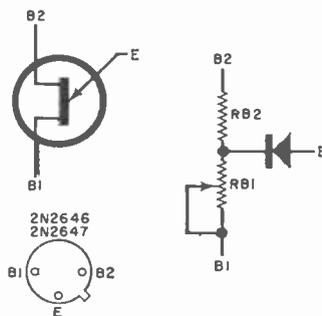
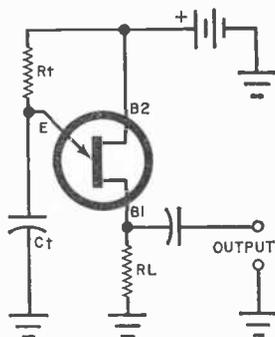

FIGURE 1
FIGURE 2
**How the UJT Works.** The UJT can be represented by a circuit approximation consisting of two resistances in series, with a diode connected at their junction as in Fig. 1. (Also shown in the figure is the accepted schematic symbol and base diagram for the UJT. Note that in
**UJT Relaxation Oscillators.** The schematic diagram in Fig. 2, or some varia-
When the potential across  $Ct$  reaches the value of peak-point voltage for the particular UJT being used in the circuit, the emitter junction goes suddenly into conduction. Using the UJT approximation shown in Fig. 1,  $RB1$  promptly drops to a much lower value and  $Ct$  in Fig. 2 discharges abruptly through load resistor  $RL$ , producing a spike pulse of voltage across the output terminals.
**When It Doesn't Work.** The operation of a UJT relaxation oscillator involves more than just raising the potential across timing capacitor  $C_t$  to the firing level. A certain value of current, called the "peak-point emitter current," is required to fire the unijunction transistor. This current must be supplied through timing resistor  $R_t$  (see Fig. 2). If the current through  $R_t$  is too low, capacitor  $C_t$  will charge to a value that is below the peak-point voltage, and operation will cease. The UJT will not fire. This need for sufficient emitter current becomes important when  $R_t$  must have a large value to operate the UJT at a very low repetition rate.
receivers is shown in Fig. 1. The circuit for a modified full-wave bridge rectifier is shown in Fig. 2. Choose the specific rectifier to have a rated input voltage (rms) slightly higher than the nominal output voltage of the power transformer.